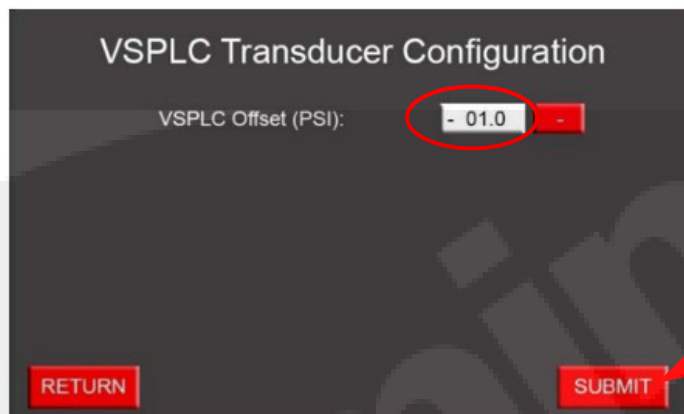

Figure 4-11 VSPLC Transducer Configuration
5. As shown in Figure 4-11, press the VSPLC Offset (PSI) data field to activate the popup keyboard and enter the desired pressure offset.